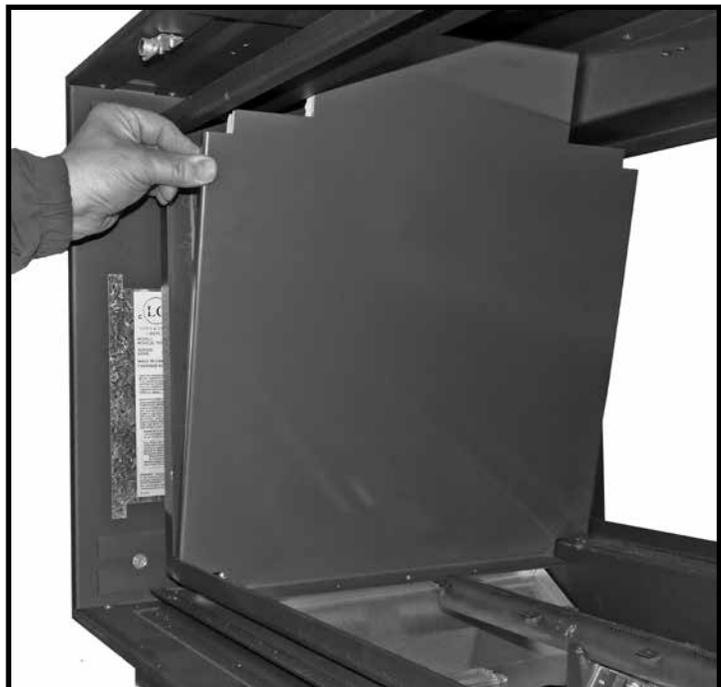

Figure 13: Side panel installation.
13. Insert both side panels (Figure 13).